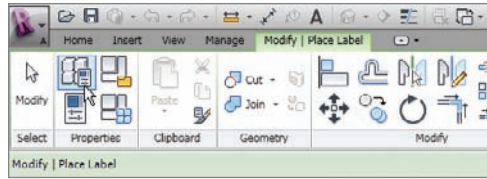

FIGURE 11.79 The Type Properties button
2. Click the Type Properties button on the Properties panel, as shown in Figure 11.79.